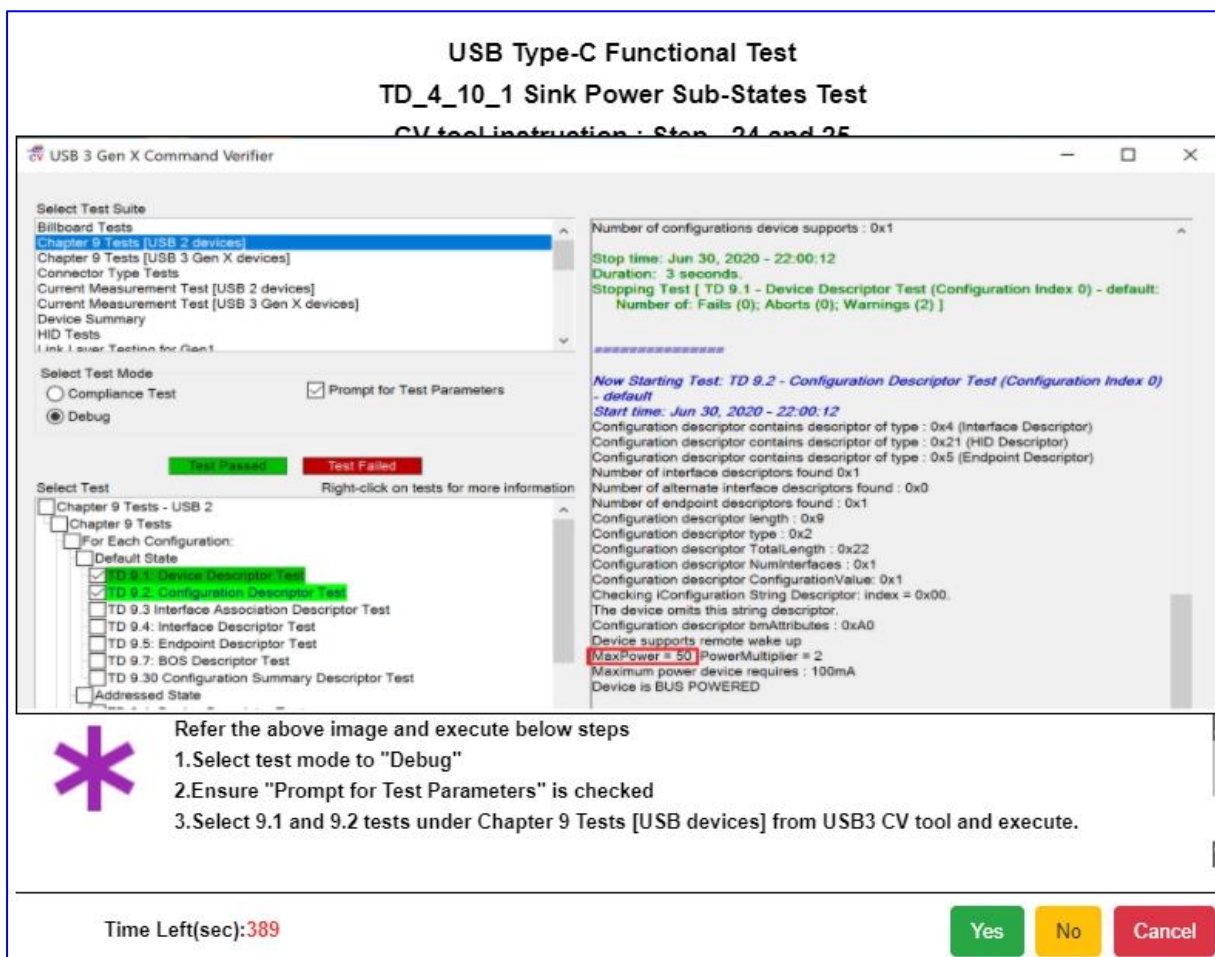

FIGURE 7.7: SELECT AND EXECUTE TD 4.10.1 TESTS IN CV TOOL
1. Refer to Figure 7.7 below on the following: